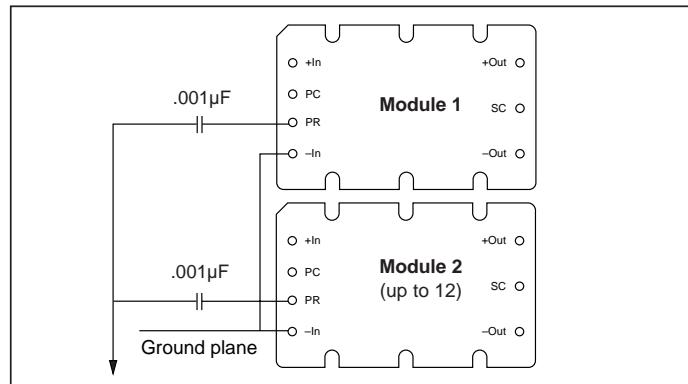

Figure 10—AC coupled single-wire interface.
*AC coupled single-wire interface.* All PR pins are connected to a single communication bus through .001 $\mu$ F (500V) capacitors. This interface supports current sharing and is fault tolerant except for the communication bus. See Figure 10.